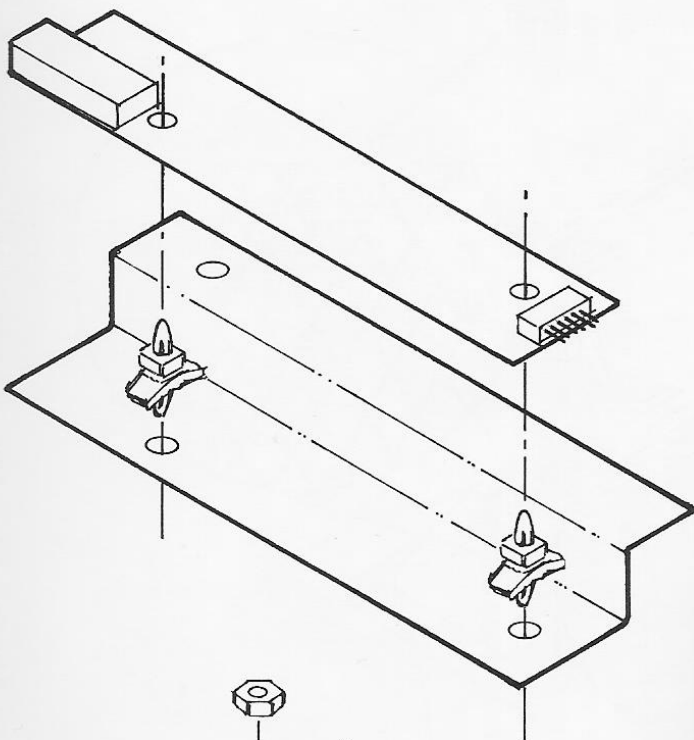

Fig. 3
- B. Assemble the LED board and LED bracket using the two (2) black board spacers (see Figure 3).